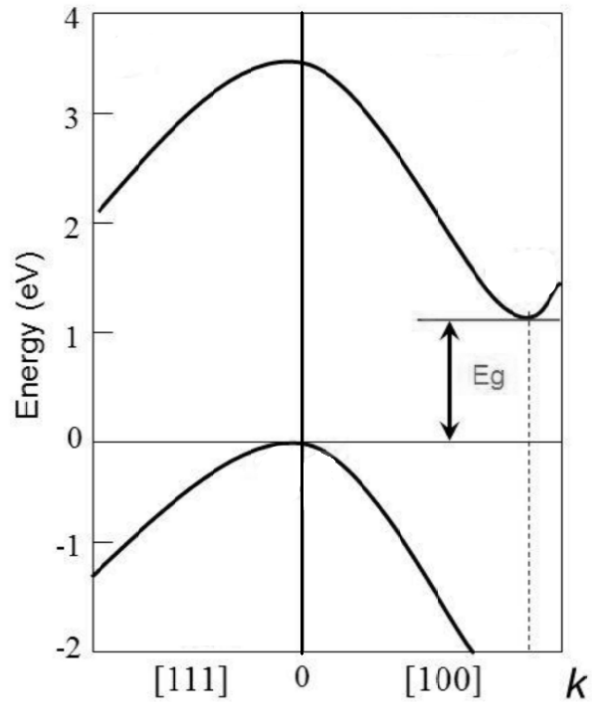

Fig. 5
- 4 (a) Figure 5 shows a band diagram of a crystalline semiconductor.